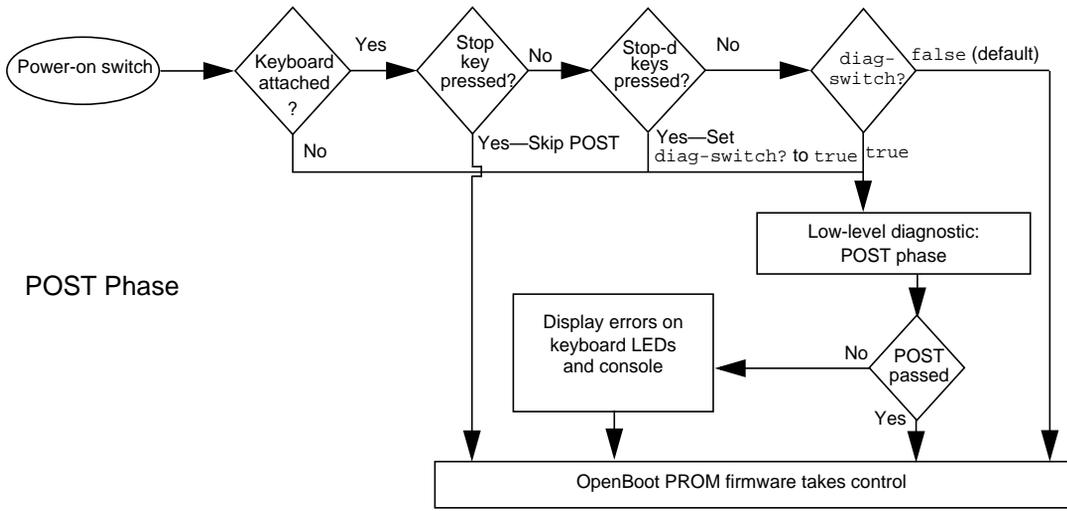
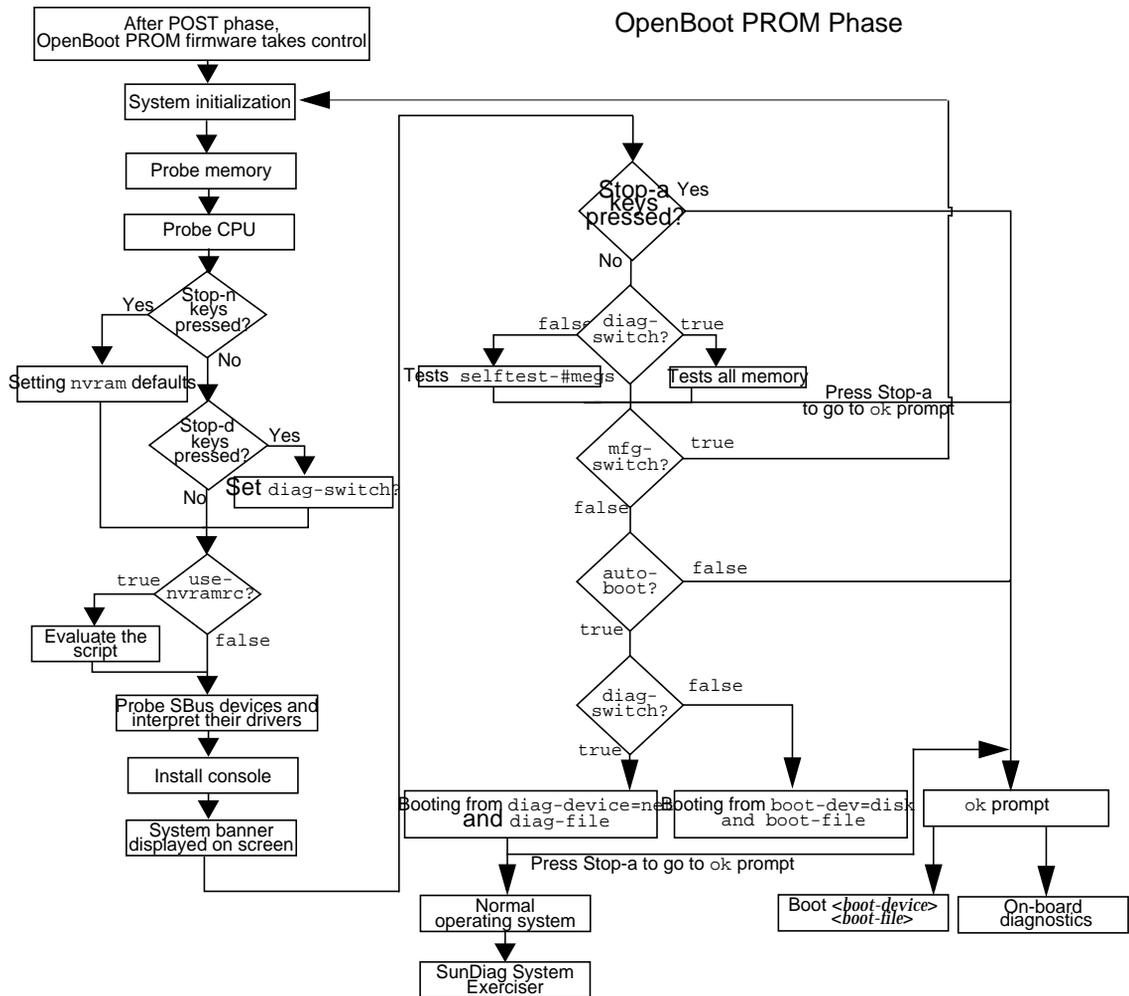

FIGURE 2-1 Factory-Defined Boot Sequence—POST Phase Settings and Tests
FIGURE 2-2 Factory-Defined Boot Sequence—OpenBoot PROM Phase Settings and Tests
The flowcharts in FIGURE 2-1 and FIGURE 2-2 outline the roles played by various diagnostics during a *factory-defined boot* operation under the control of the OpenBoot™ PROM (OBP) firmware.
FIGURE 2-1 (POST phase) and FIGURE 2-2 (OBP phase) graphically depict the flow of OBP processing control, after power is switched on. Each figure depicts the possible paths for processing control, and the switch settings for the factory-defined boot sequence. By examining the two flowcharts you can see where in the processing sequence other diagnostic tests are available or are encountered.
- Install the console (see FIGURE 2-2)